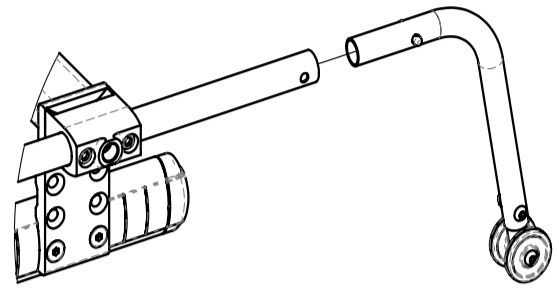

Figure 14.29: Installing anti-tip tubes
1. Press and hold the release button on the anti-tipper tube. (See Figure 14.29)